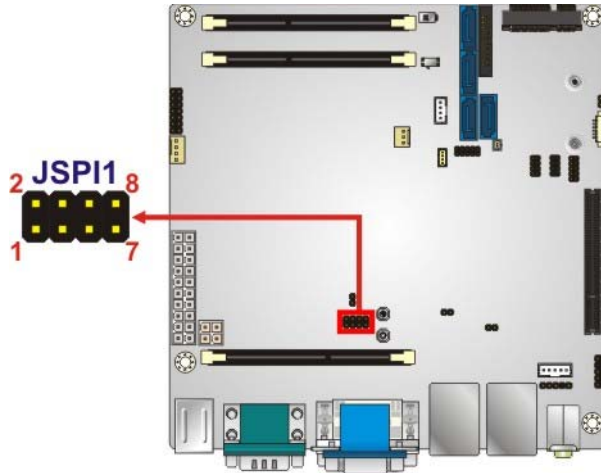

Figure 3-28: SPI Flash Connector Location
- CN Location:** See Figure 3-28